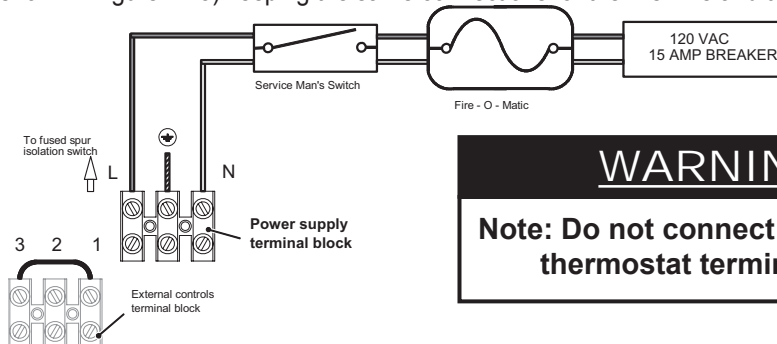

Figure 12.5
- Connect the electrical supply cable coming from the fused spur isolation switch to the power supply terminal block of the boiler (as shown in Figure 12.5) keeping the same connections for the live wire and the neutral wire